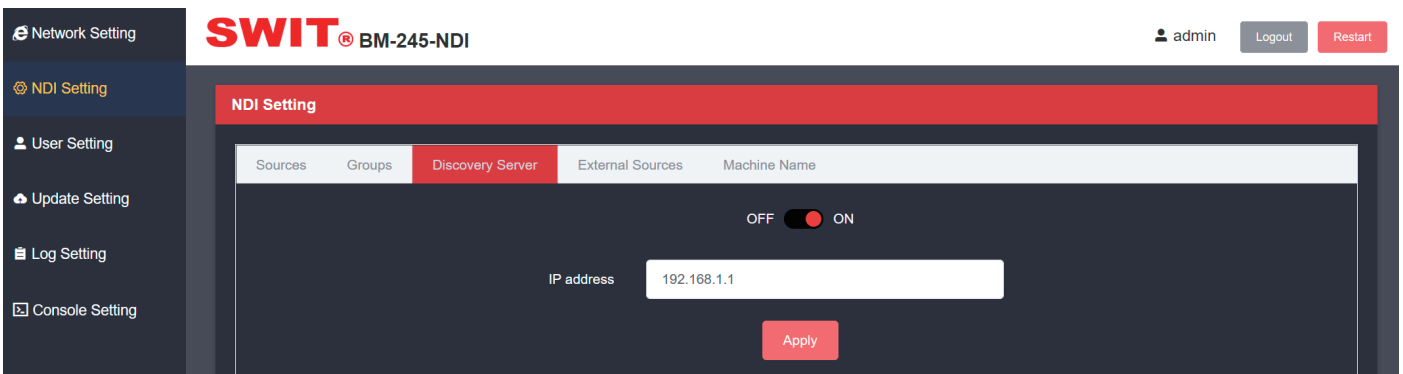

Fig.5
4. When the above button is selected as "ON", you can enter the IP address input box below, enter the IP address of the server to be connected (the server must have Discovery Sever service enabled), and click "Apply". See Fig. 5 below for details.